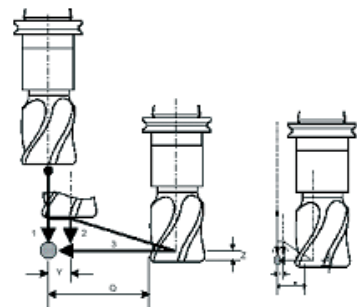

Figure 10 - Edge checking/insert missing detection routine
- Edge checking/insert missing detection (see Figure 10)